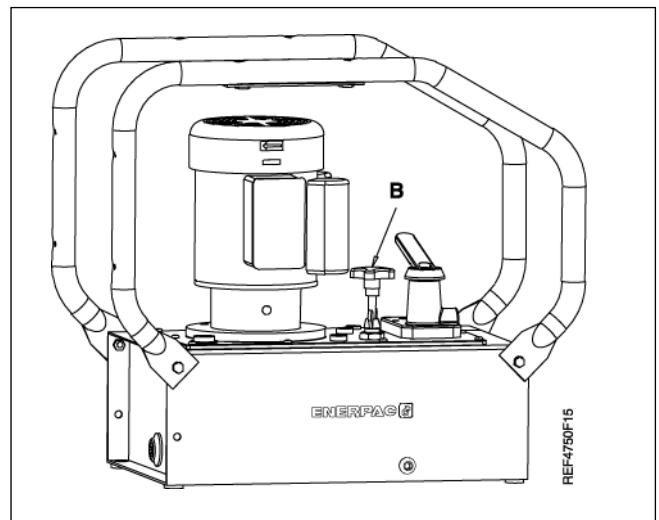

Figure 13
Hushh® Pumps are equipped with one user adjustable relief valve. (See (B), Figure 13.) It can be adjusted as follows: